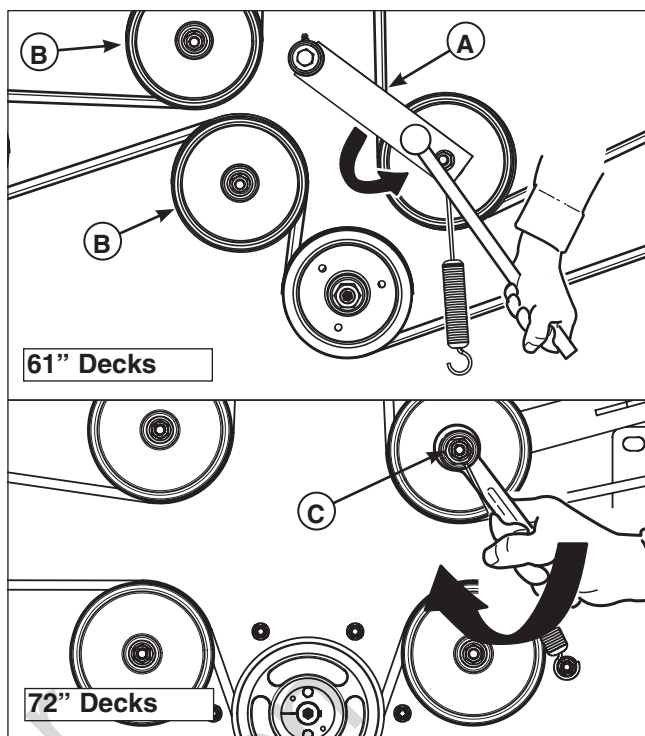

Figure 44. Mower PTO Belt
3. **For 61" Decks:** Using a 1/2" breaker bar, place the square end in the square hole located in the end of the idler arm (A, Figures 44). Carefully rotate the breaker bar COUNTER-CLOCKWISE, which will relieve the tension on the belt exerted from the idler arm.
For 72" Decks: Using the 3/4" combination wrench, place the box end on the nut (A, Figure 44) that secures the idler pulley located at the end of the idler arm. Carefully rotate the wrench CLOCKWISE, which will relieve the tension on the belt exerted from the idler arm.
6. **For 61" Decks:** Install the drive belt on the PTO pulley, the spindle pulleys and all idler pulleys except the stationary pulley (B, Figure 44). Carefully rotate the breaker bar COUNTER-CLOCKWISE and install the belt on the stationary idler pulley (B). Carefully release the tension on the breaker bar.
For 72" Decks: Install the drive belt on the PTO pulley, the spindle pulleys and all idler pulleys except the stationary pulley (B, Figure 44). Carefully rotate the combination wrench CLOCKWISE and install the belt on the stationary idler pulley (B). Carefully release the tension on the combination wrench.